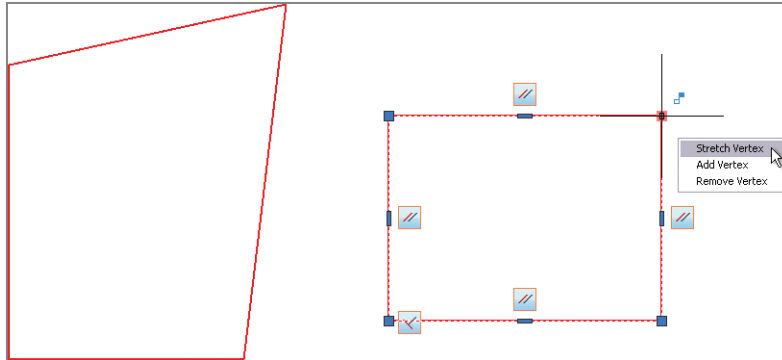

FIGURE 12.2 Stretching constrained geometry limits the types of transformation that can occur.
- Select both rectangles with a crossing selection window. Hover the cursor over the upper-right grip of the left rectangle, select **Stretch Vertex** from the grip menu that appears, and stretch it up and to the right so that the rectangle deforms. Hover the cursor over the upper-right grip of the right rectangle, select **Stretch Vertex** from the grip menu, stretch it up and to the right, and click to set its new location. The rectangle remains a rectangle because of the constraints (see Figure 12.2). Press **Esc** to deselect.